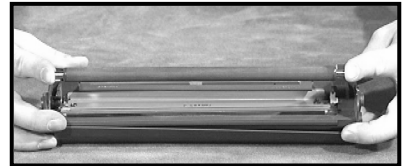
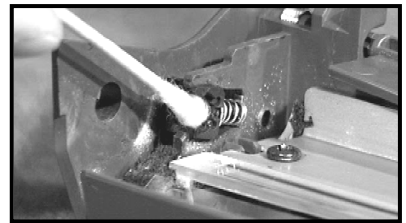

Figure 6
Figure 7
4. Grasp each shaft end of the PCR and lift it from the saddle clips (fig. 6). Use compressed air to remove residual toner from the surface of the PCR and inspect for defects. Be sure to clean residual grease from the saddle clips with a cotton swab saturated in 99% IPA (fig. 7). Replace if necessary. If the PCR is intact, wipe the surface with Nu-Finish car wax® (Oasis **PN: 99MS21**) and a clean, lint-free cloth.